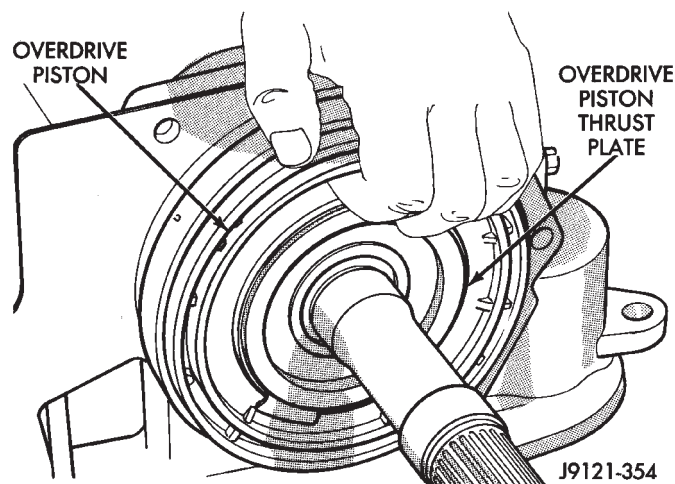

Fig. 153 Installing Overdrive Piston Thrust Plate
(39) Install spacer on intermediate shaft, if not previously installed.
(40) Install overdrive piston thrust plate (Fig. 153). Use liberal quantity of petroleum jelly to hold thrust plate in position on piston.